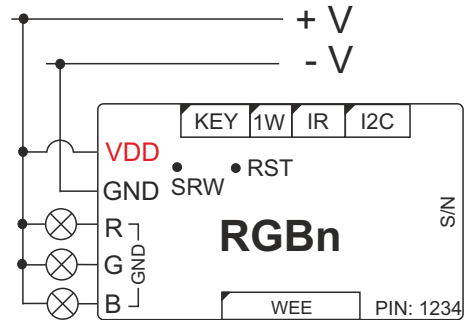

Fig.1 Wiring diagram RGB connector
- Note of the card PIN and Serial Number (SN) device (Both located on the housing of the device)
- Connect cables +V, -V, R, G, B as on Fig.1